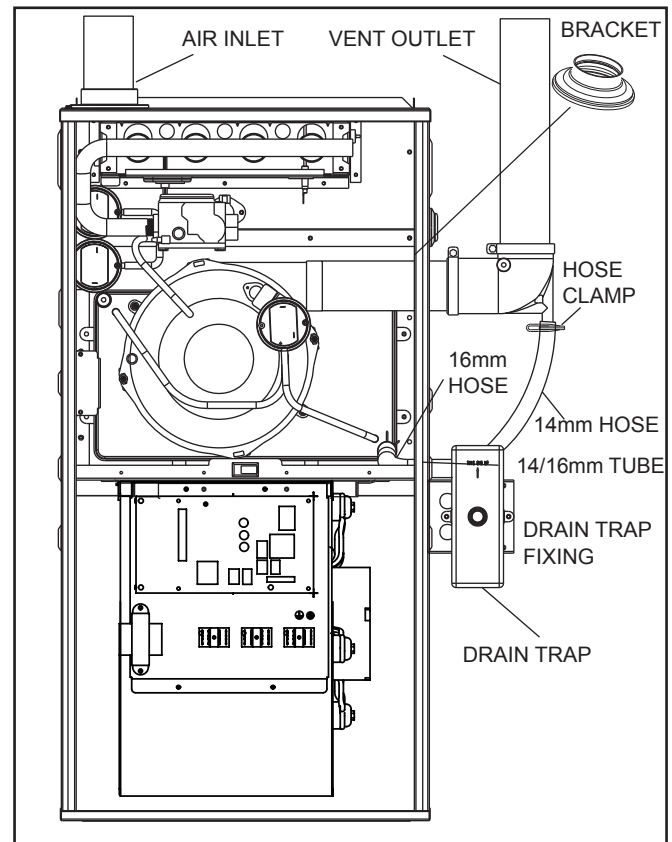

Fig. 12 - Upflow Installation, Right Side Venting
**2. Right side venting (see Fig. 12)**